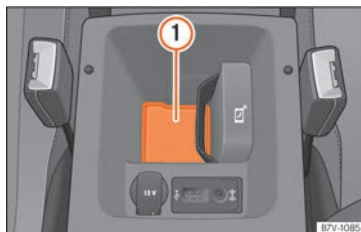

**Fig. 229** The phone holder used for connecting the mobile phone to the car aerial is located in the front centre armrest.
For the connection to the aerial of the vehicle, the mobile phone must be on the lodging surface » **Fig. 229 ①**.